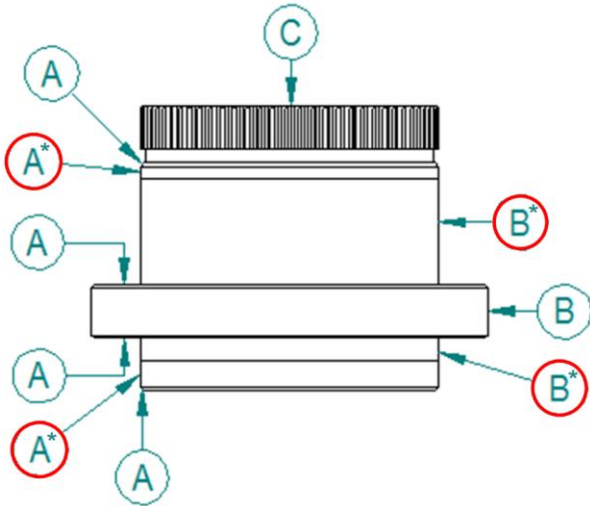
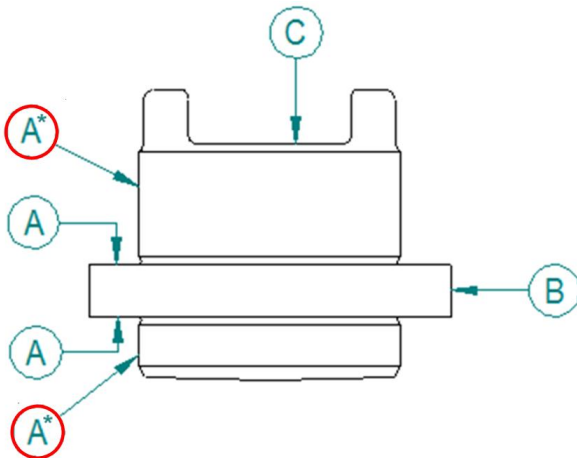
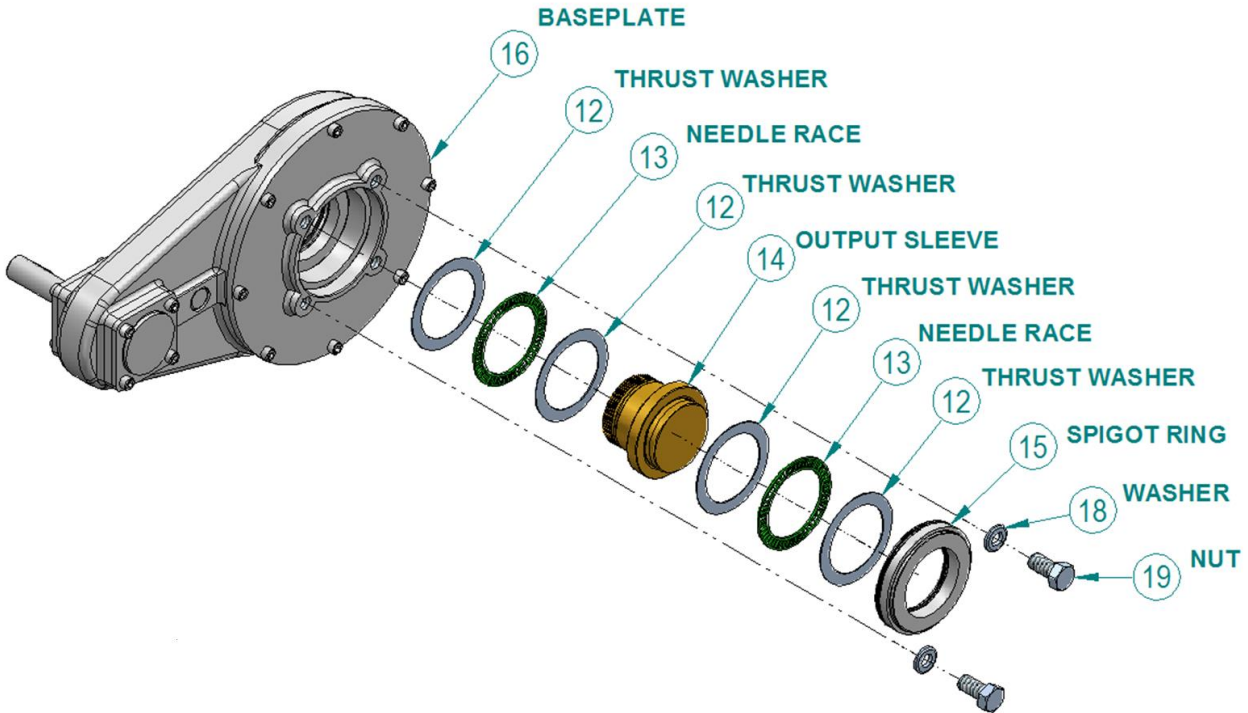
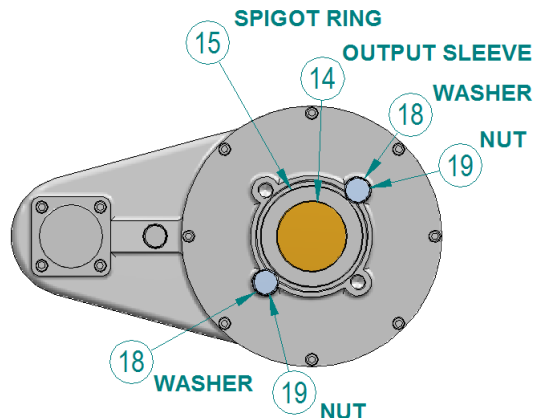

Figure 1 - Splined Output Sleeve, Important Surfaces
Figure 2 - Dog Drive Output Sleeve, Important Surfaces
Figure 3 – HOB/MPR / HOS/MPR Output Sleeve Assembly
Figure 4 - Securing Spigot Example
! We recommend fitting a bolt and washer system onto the baseplate of HOB/MPR and HOS/MPR gearboxes before moving them, as demonstrated in Figure 3 and Figure 4.
HOB/MPR and HOS/MPR range of gearboxes have a removable output sleeve. Unless specifically requested at the ordering stage, the output sleeve will be supplied blank and must be machined to suit the valve stem. Before re-fitting the machined output sleeve, check that the surfaces marked 'A' in Figure 1 and Figure 2 are not damaged.
For all HOB/MPR and HOS/MPR gearboxes apart from HOB3, see Figure 1:
For the HOB3 gearbox, see Figure 2:
An anti-friction compound containing molybdenum disulphide, such as MI-Setral-9M should be applied to the faces marked with "*" and highlighted in red in Figure 1 and Figure 2, before inserting the output sleeve back into the gearbox. For clarification on the suitability of an anti-friction compound, please contact Rotork Gears.
With reference to Figure 3 below, note that the output sleeve arrangement is identical for HOB/MPR and HOS/MPR gearboxes. The output sleeve (14) can be easily removed from the gearbox by first removing the spigot ring (15) from the baseplate (16). A small force may have to be applied to the face marked 'C' in Figure 1 and Figure 2 to assist in removing the sleeve.
! WARNING – We recommend fitting a nut (19) and washer (18) fixture into the base of the gearbox as demonstrated in Figure 3 and Figure 4. Note that the washers must overlap the spigot ring (15). This will stop the output sleeve assembly from becoming detached from the main body. The bolts and washers are not supplied by Rotork Gears.
An anti-friction compound containing molybdenum disulphide, such as MI-Setral-9M should be applied to the faces marked with '*' and highlighted in red in Figure 1 and Figure 2, before inserting the output sleeve back into the gearbox. For clarification on the suitability of an anti-friction compound, please contact Rotork Gears.